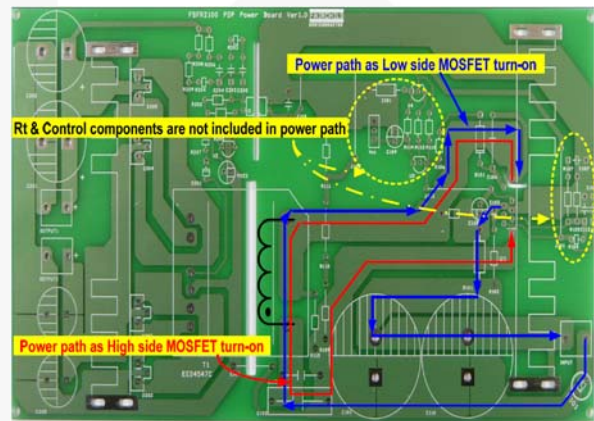

Figure 28. Example for Duty Balancing
**6. PCB Layout Guideline:** Duty unbalance problems may occur due to the radiated noise from main transformer, the inequality of the secondary side leakage inductances of main transformer, and so on. Among them, it is one of the dominant reasons that the control components in the vicinity of RT pin are enclosed by the primary current flow pattern on PCB layout. The direction of the magnetic field on the components caused by the primary current flow is changed when the high and low side MOSFET turns on by turns. The magnetic fields with opposite direction from each other induce a current through, into, or out of the RT pin, which makes the turn-on duration of each MOSFET different. It is highly recommended to separate the control components in the vicinity of  $R_T$  pin from the primary current flow pattern on PCB layout. Figure 28 shows an example for the duty balanced case.